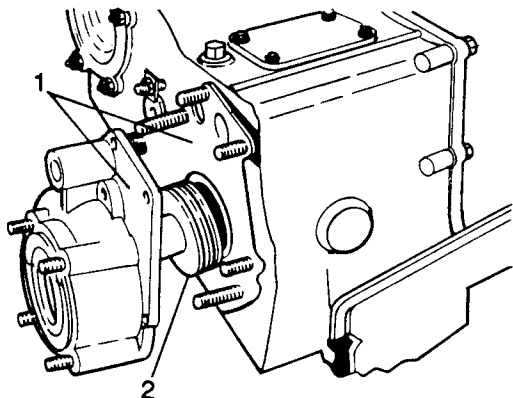

Fig H1.14
(5) Refer to Fig H1.14. Remove the speedometer cover (1) together with the shims.
(6) Remove the speedometer drive (2).